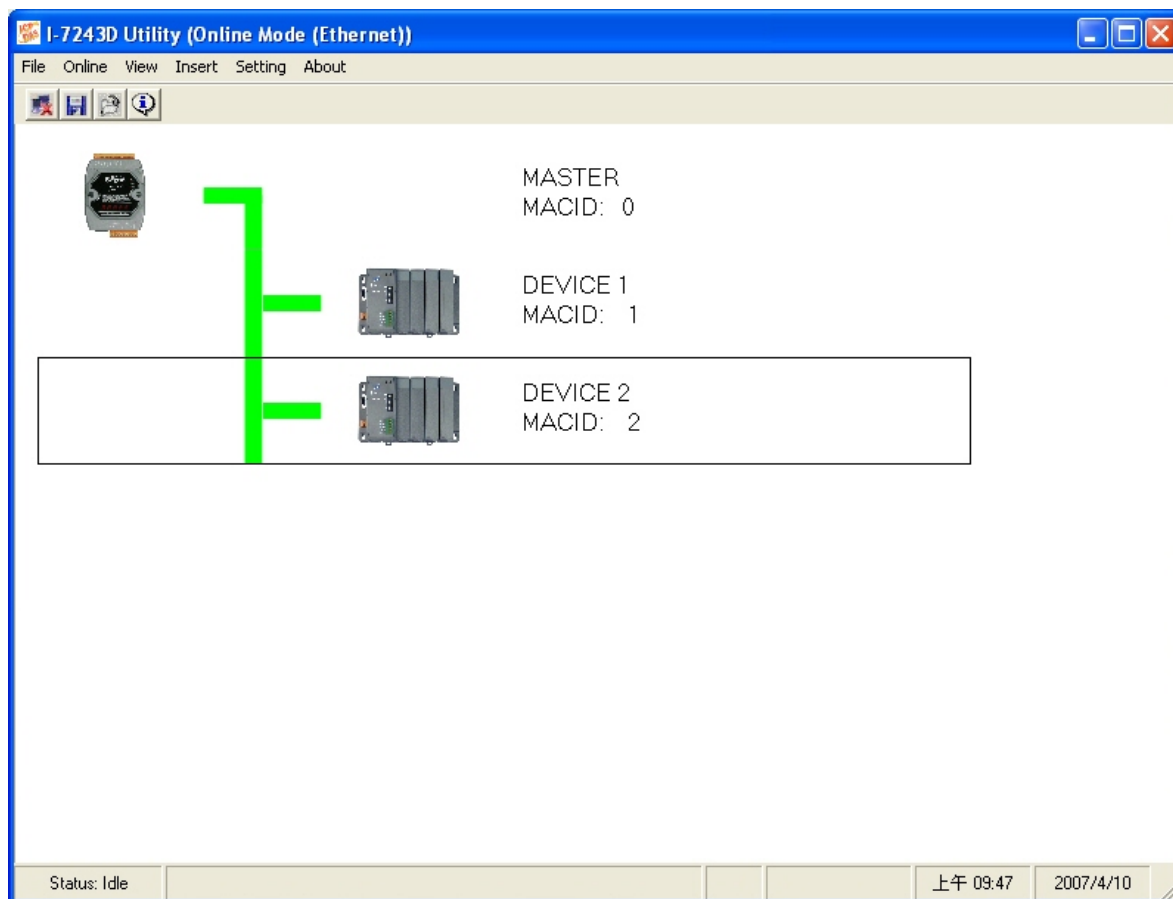

Figure 5-23: Start to monitor the connection status of each device
2. After pressing “OK” button to finish the setting of all actual devices, Utility tool will save all setting into I-7243D’s EEPROM and I-7243D start to communicate with these devices automatically. Then the I-7243D Utility tool will display each configured device’s connection status on the main frame and update the device connection information per 0.8 second. As shown in figure 5-23.